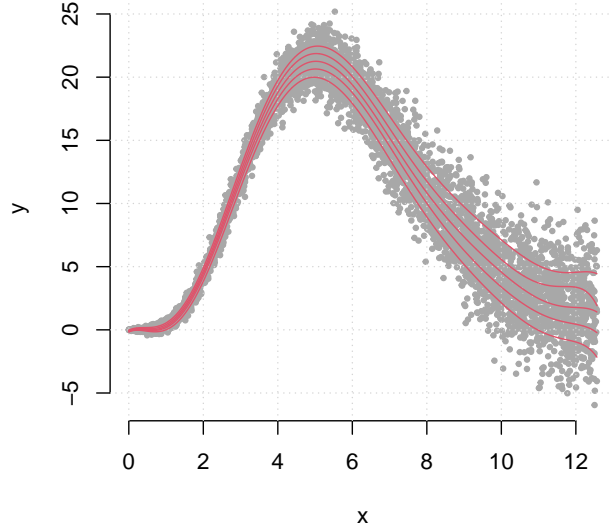

Figure 1: The fitted QR model for $q = 1/6, \dots, 5/6$ where the true model is $f(x) = x^5 e^{-x}$ with random errors i.i.d. $N(0, [0.25(x + 0.05)]^2)$.
The fitting algorithm is invoked in the line denoted by ❶ in the code above. The fitted quantile regression models are shown as red curves in Figure 1.